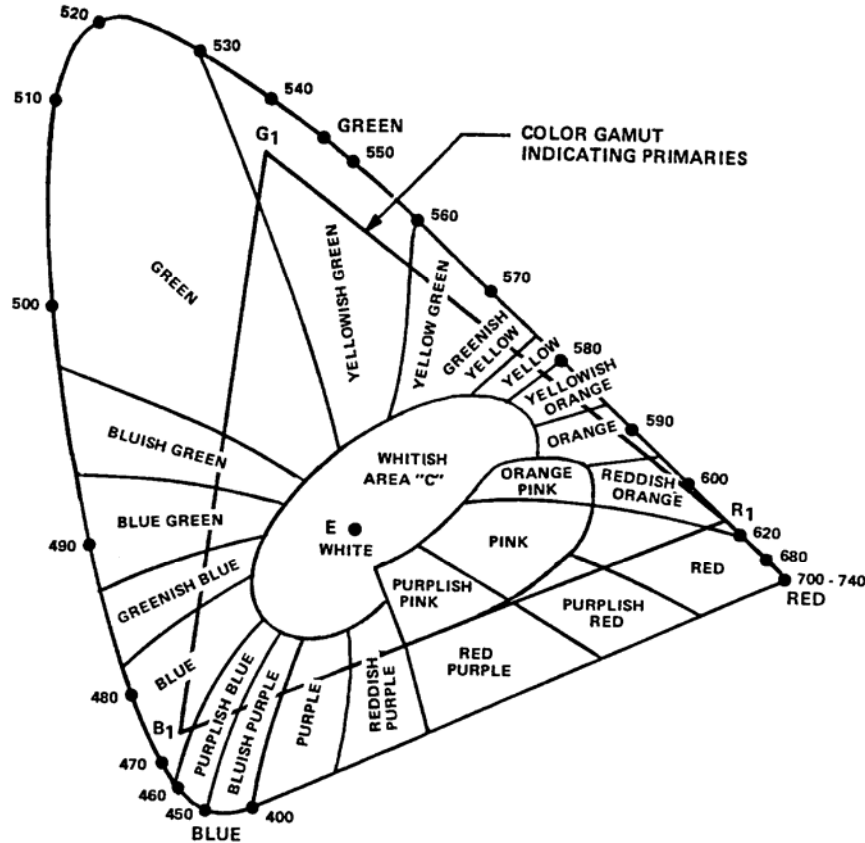

Figure S-14. CIE Chromaticity Diagram and the NTSC Triangle
(2) In the development of a color matching and specification system, extensive color matching tests on many observers were conducted using a device known as a colorimeter. In order to establish an average that could be considered as that of the standard observer, many individuals performed similar tests. The results of these tests are known as tristimulus values for color mixture curves. By the use of mathematics equations, the information contained in the color mixture curves has been converted to a graphical representation of color on a three-dimensional plane and is referred to as the Maxwell triangle.
(3) For practical purposes, the three-dimensional Maxwell triangle was converted to a two-dimensional drawing and was designated the *Commission Internationale de l'Eclairage/International Commission on Illumination (CIE) Chromaticity Diagram*. If we examine the diagram in Figure S-14, we see that the horseshoe curve, which is known as the spectrum locus, is graduated into numerals ranging from 400 in the left-hand corner to 700 at the extreme right.
(4) These figures represent the wavelengths of the various colors in nanometers. The blues extend from approximately 400 to 490 nanometers, the greens extend from approximately 490 to 550 nanometers, the yellows extend from approximately 550 to 580 nanometers, and the reds (including orange) extend from 580 to 700 nanometers.
(5) Since fully saturated colors contain no white light, the spectrum colors which lie directly on the horseshoe curve can be said to be 100 percent saturated. At point E in Figure S-14, only white light is present, so it can be said to be zero percent saturated.
(6) This same principle applies when observing the vectorscope, a device for measuring vector relationships between the various color signals being transmitted as well as the amount of saturation present. Various percentages of saturation fall along a straight line drawn between any point on the spectrum locus and point E on the diagram. As we move more toward point E, the saturation is decreased. Conversely, as we move toward the curve, the saturation is increased. Thus, we can see that a 100-percent saturated color is one that has 100-percent purity or freedom from white and that a desaturated color is a color which contains some amount of white light.
(7) When primary colors were selected for color television work, it was found that those primaries must, of necessity, be limited by the color phosphors that were available for the picture tube. Figure S-14 shows the actual location of the primaries (red, green, and blue) that are used in color television.
(8) These points represent the primaries selected by the NTSC. They define a triangle within the boundaries of the Chromaticity Diagram. The area within the triangle represents the range of colors that are obtainable when these primaries are used. In the NTSC triangle, red has a wavelength of approximately 610 nanometers, green is approximately 540 nanometers, and blue is approximately 470 nanometers.
(9) At first glance, this triangle appears much smaller than the gamut of colors obtainable when ideal primaries are used. If we give Figure S-14 a closer inspection, we see that the NTSC primaries fall very close to the saturated colors on the Chromaticity curve. The red primary, for example, is actually on the curve.